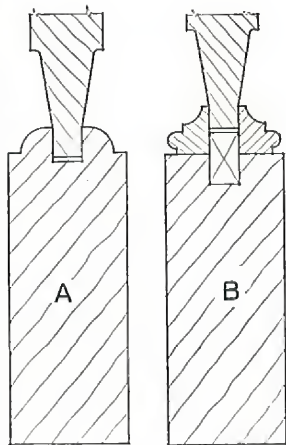
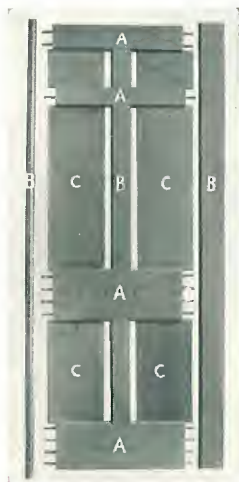

Fig. 1. (A) Curtis ovolo molding is cut on the stiles and rails themselves. (B) Curtis flush molding is a separate strip "planted in" or nailed.
Fig. 2. Door parts ready for assembling by an automatic clamp.
Figure 1 illustrates the two types of molding used on Curtis doors. The style of molding that is used around panels in any door determines in a large degree the character and beauty of its design. These moldings are of two general kinds: solid and applied. The solid molding shown in Figure 1(A) is known as Curtis *ovolo*. It is cut on the stiles and rails of the door. The *flush* molding shown in Figure 1(B) is a separate molded strip that is "planted in"; i. e., bradded or nailed to the spline in the stile or rail.
Curtis doors are assembled by an automatic clamp; the stiles, rails, and panels are first laid out as shown in Figure 2 and then forced into place by the uniform pressure of the clamp.
Fig. 3. A— $\frac{1}{8}$ " strip of veneer. B— $\frac{3}{4}$ " hardwood edging strip. C— $1\frac{1}{8}$ " white pine core blocks for $1\frac{3}{8}$ " doors; $1\frac{1}{2}$ " white pine core blocks for $1\frac{3}{4}$ " doors. The stiles and rails of the veneered door have cores of white pine blocks tongued-and-grooved and glued together (C in Fig. 2). Strips of hardwood $\frac{3}{4}$ " thick are then applied to the edges of the built-up core (B in Fig. 2). Finally strips of veneer $\frac{1}{8}$ " thick (A in Fig. 2) are glued with waterproof glue to the surfaces of the built-up cores. The stiles and rails are then ready to be molded if the door is to have Curtis ovolo molding, to be grooved to receive the panels, and to be bored to receive the dowels. The parts are then clamped together as in Fig. 1.